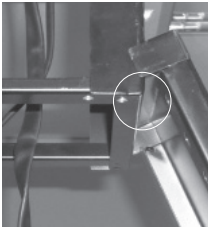

Fig. 4
- First of all hook the cooker hood onto 1 side of the motor unit (fig. 4).